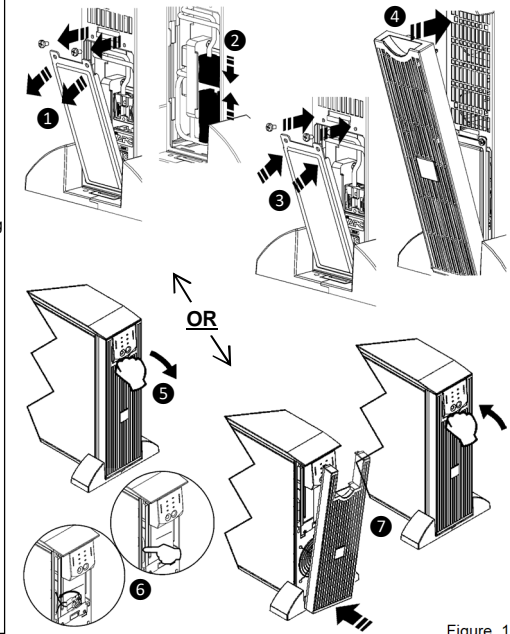

Figure 1
**STEP 1:** Connect the UPS's Internal Batteries (Figure 1):
**NOTE:** The Battery Connector may vary depending on the UPS model, Figure 1 illustrates a couple variations. Please follow the illustration which best resembles your UPS.